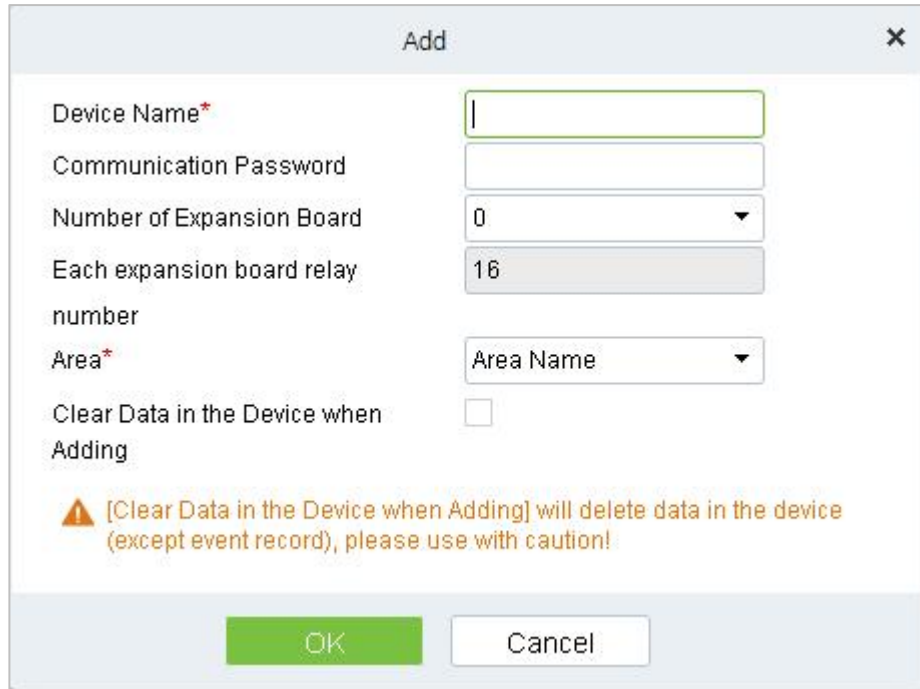

Figure 8-5 Add Interface
Step 5: For the Elevator control device searched, click the **Add** button in the operation bar to add the device; The device addition settings are shown in Figure 8-5, and the parameter settings are shown in Table 8-1.
Step 3: In the floor parameter setting interface, fill in the corresponding parameters according to the addition requirements, as shown in Figure 8-5. Please refer to Table 8-3 for parameter filling instructions.